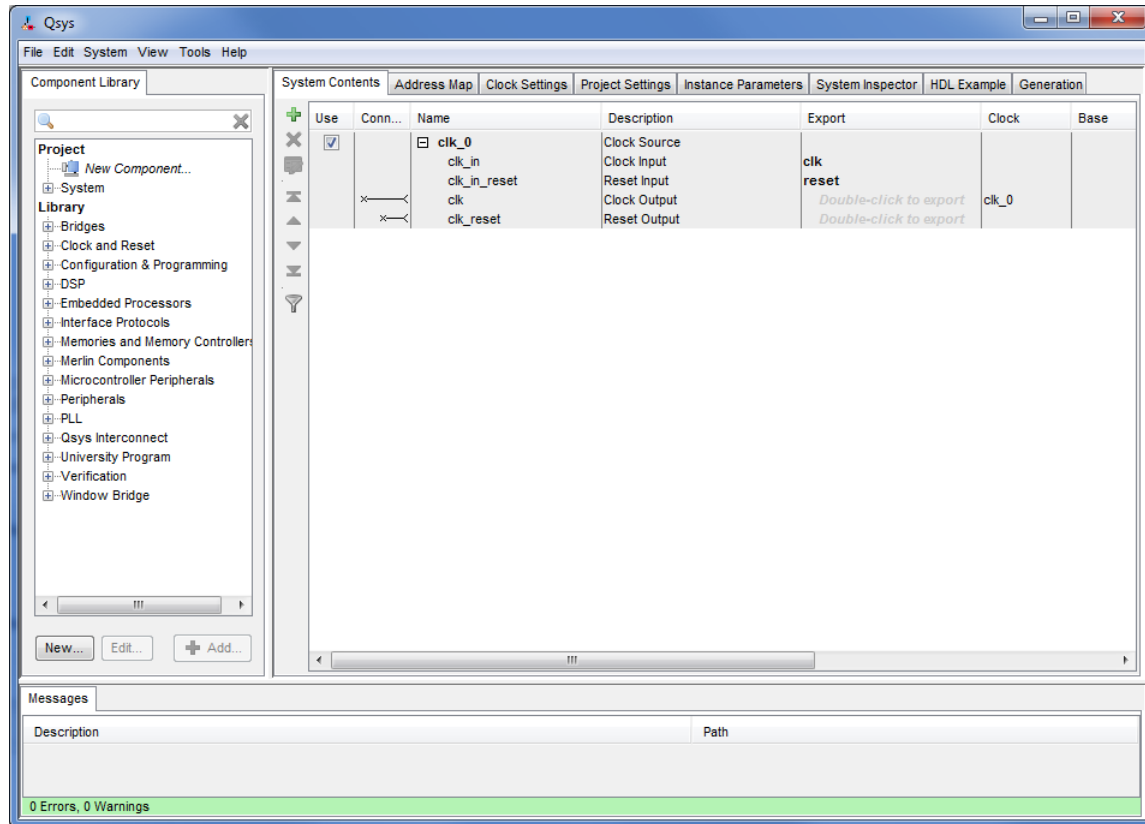
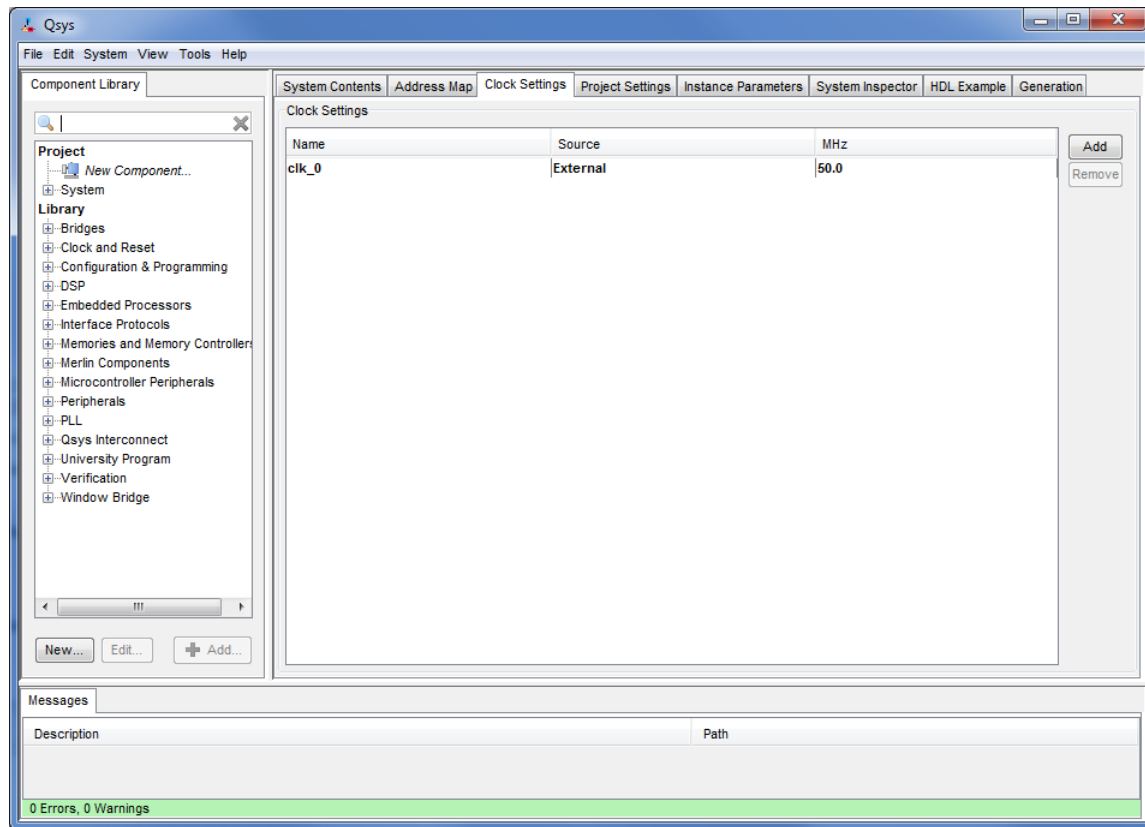

Figure 4. Create a new Nios II system.
Figure 5. The Clock Settings tab.
Qsys, which leads to the window in Figure 4. This is the System Contents tab of the Qsys tool, which is used to add components to the system and configure the selected components to meet the design requirements. The available components are listed on the left side of the window.
- The hardware system that will be generated using the Qsys tool runs under the control of a clock. For this tutorial we will make use of the 50-MHz clock that is provided on the DE2-115 board. In Figure 4 click on the Clock Settings tab (near the top of the screen) to bring this tab to the foreground, as illustrated in Figure 5. Here, it is possible to specify the names and frequency of clock signals used in the project. If not already included in this tab, specify a clock named *clk_0* with the source designated as **External** and the frequency set to 50.0 MHz. The settings are made by clicking in each of the three columns: Name, Source and MHz.